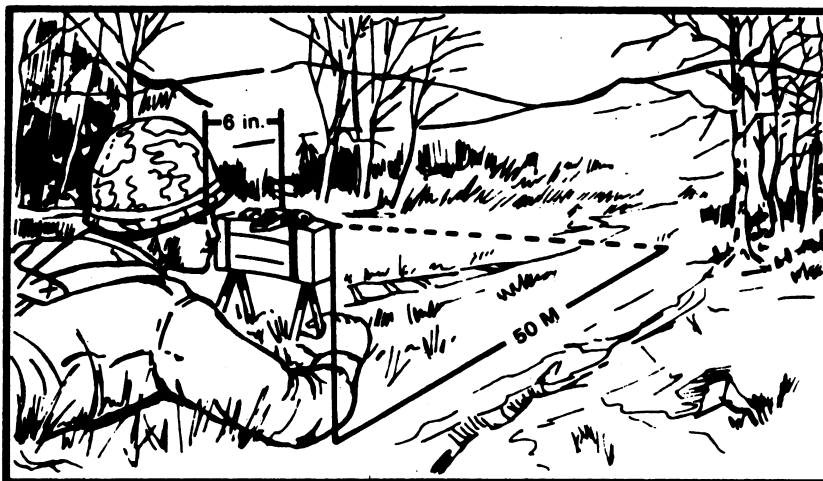

Figure 1
- (1) Check to see that the mine and all accessories are in the bandoleer.
- (2) Remove the electrical firing wire, leaving the mine and other accessories in the bandoleer.
- (3) Secure the shorting plug end at the firing position. Place the bandoleer on your shoulder and unroll firing wire to the position selected for emplacing the mine.
- (4) Remove the mine from the bandoleer and position it with the surface marked "FRONT TOWARD ENEMY" and the arrows on top of the mine pointing in the direction of the enemy or the desired area of fire.
- b. Aiming (fig. 1). Select an aiming point at ground level that is about 50 meters in front of the mine. Aim the mine by alining the two edges of the sight with the aiming point (fig. 1).